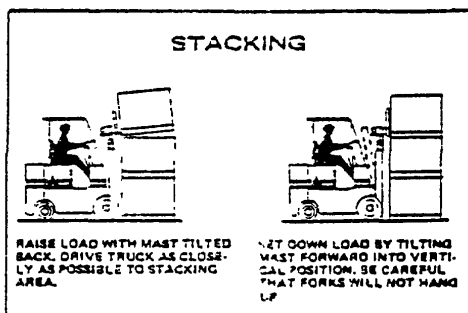

Figure 4-12. Stacking and Positioning
- c. Check all low-hanging obstructions. Raise the load with the mast tilted slightly each (Fig 4-12).